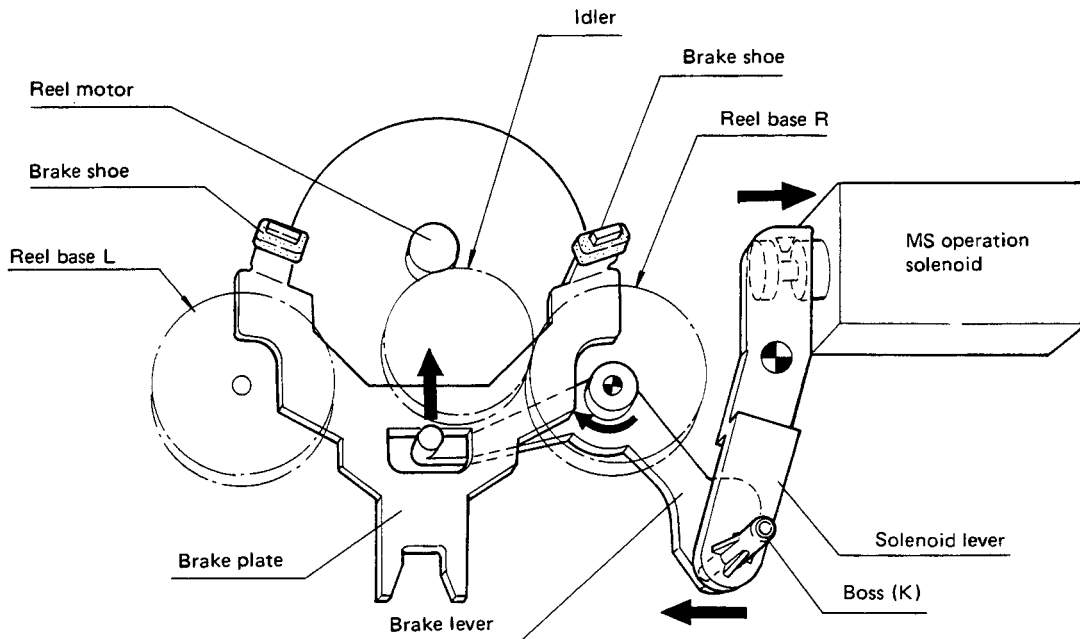

Fig. 1-11 FF/REW operation
**FF and REW modes (Fig. 1-11).**
Operation during MS mode is a combination of PLAY and FF (or REW) mode operations. When the FF or REW button is pressed after the MS button has been pressed, the MS solenoid is activated, resulting in the solenoid lever and brake lever being rotated clockwise and the brake being released (see Fig. 1-11).